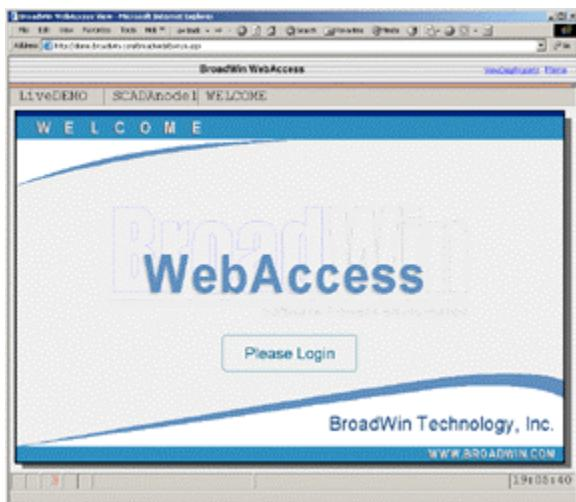

Figure 7.6 VIEW Login
The WebAccess **View Login Page** appears (Figure 7.6).
3. Click on "Please Login" (Figure 7.6).